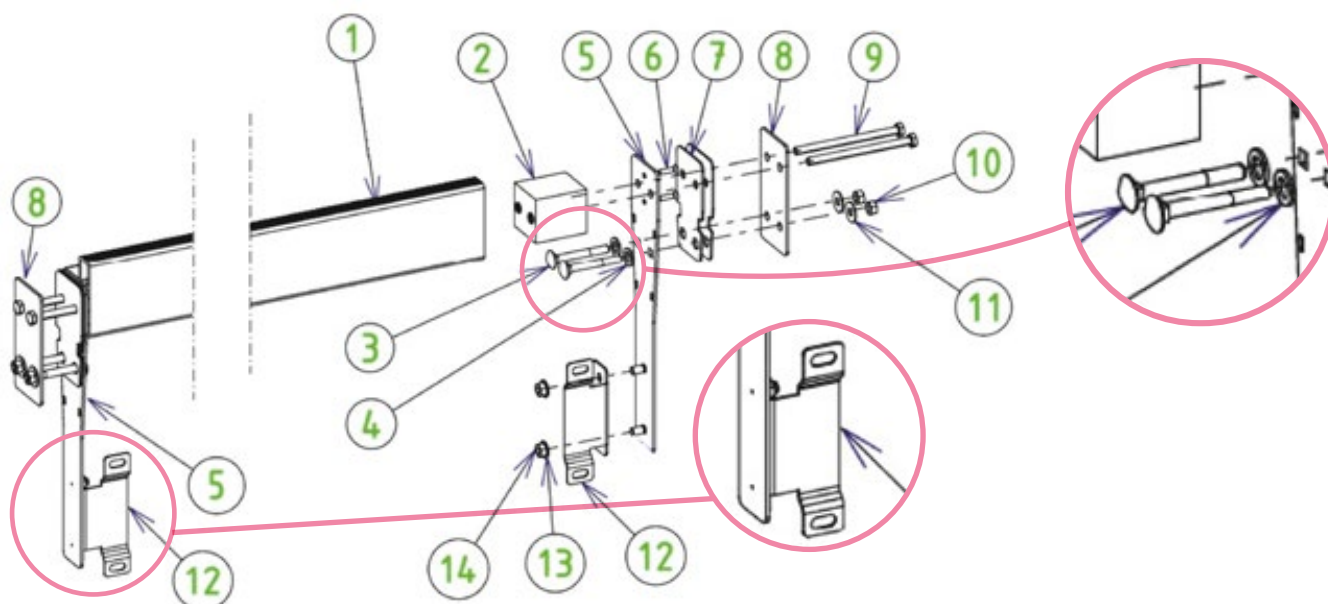

Figure 42 – Assembling and mounting the beam
The beam assembly steps are illustrated in *Figure 42*. The screws required for assembly are enclosed in bag Y. In this figure, the wooden wall is located between parts 7 and 8, and the liner is sandwiched between the two rubber gaskets (7).
Fasten the two pit wall mounting brackets (12) to the beam mounting plates (5) using four nuts (14) and four 8 mm diameter A4 SS washers (13). The protruding parts of the pit wall mounting brackets (12) that feature a slot should be located on the side opposite the skimmer and the automatic cover axle (see the zoom focused on the pit wall mounting brackets (12) in *Figure 42*
Lastly, fasten the pit wall to the brackets (part 12 in *Figure 42*) using four 8 × 16 stove screws (7), four washers and four 8 mm diameter A4 SS nuts.